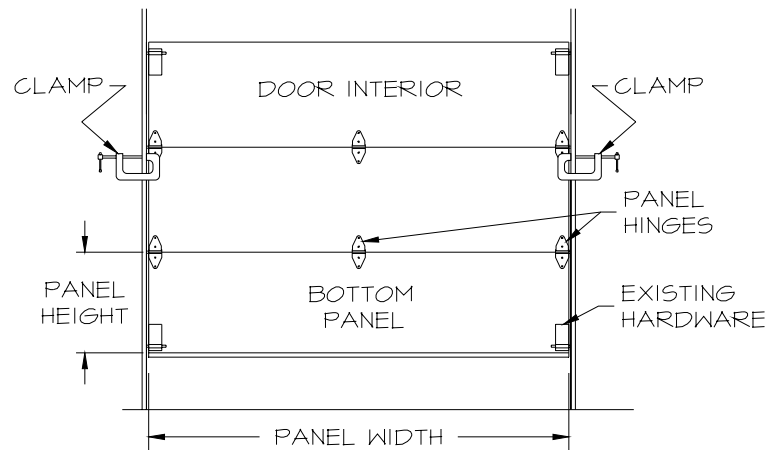

FIG. 2
- **Fasten vise-grips to tracks** below rollers on both sides of door, between the second or third panel (Figure 2).